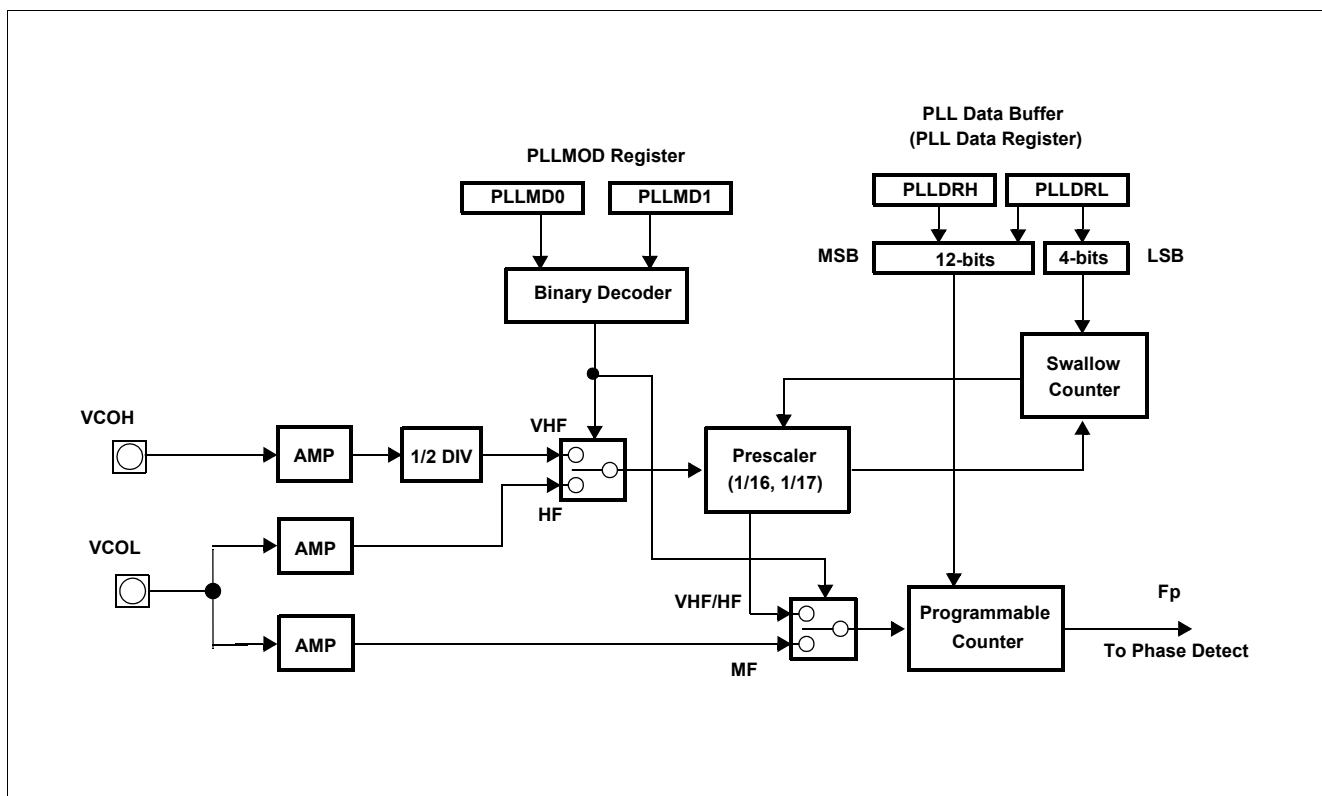

Figure 3-38 Input Selection Circuit and Programmable Divider Configuration
Figure 3-38 shows the input selection circuit and programmable divider configuration.
As shown in Figure 3-38, the input selection circuit consists of a VCOH pin, VCOL pin, and two input amplifiers. The programmable divider consists of a prescaler (1/16, 1/17), swallow counter (SC), programmable counter (PC), and frequency division selection switch.
The programmable divider divides a frequency according to the values of PLL data register using a swallow counter and a programmable counter. Figure 3-38 shows the input pins (VCOH and VCOL) and frequency division systems. The content of PLL mode register controls the input pin and the frequency division system for the programmable counter. The configuration and functions of the PLL mode select register are described in *PLL Mode Select Register Configuration and Functions* section.